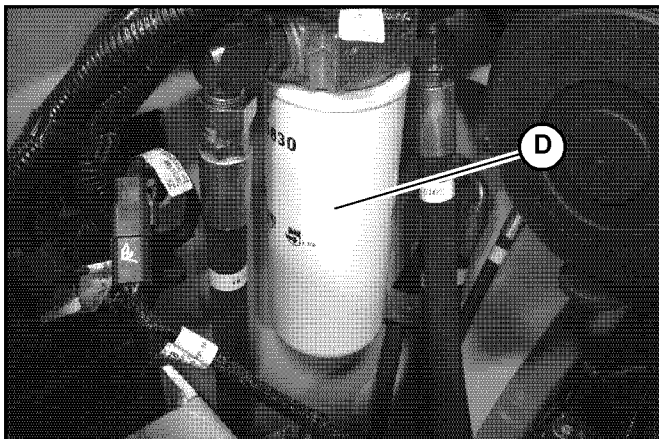

Fig. 133 – Hydraulic Oil Return Filter
6. Remove the hydraulic oil return filter (D, Fig. 133), using a filter wrench if necessary. Carefully clean the filter head mounting surface with a clean cloth.